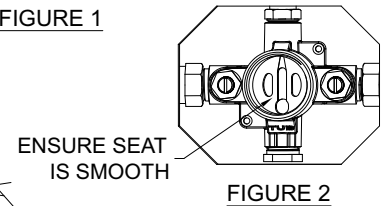

FIGURE 2
5. Inspect valve casting checking for corrosion or cracks in valve body. Clean internal valve body of all debris. Ensure cartridge seat at base of body is clean and smooth for O-ring seal. See **Figure 2**.